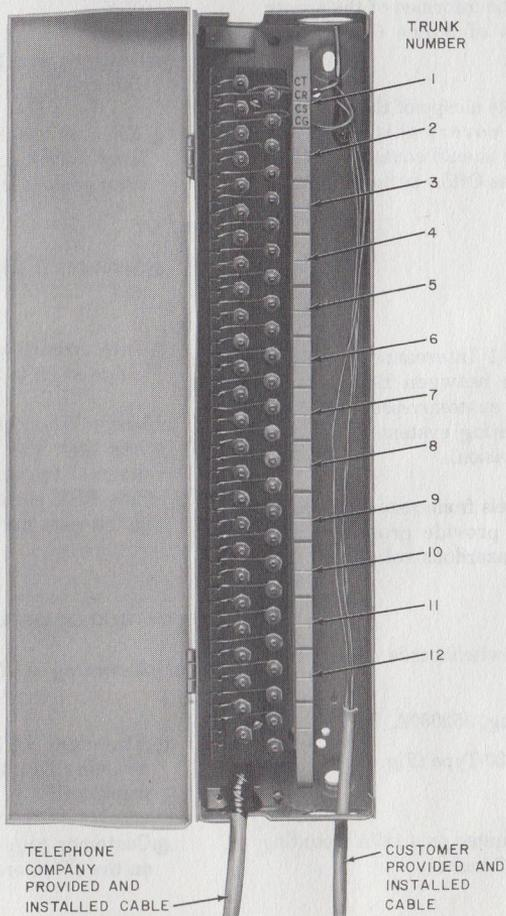

Fig. 2—Interface Connecting Block, 30-Type
- Block, Connecting, 30-Type (Fig. 2).